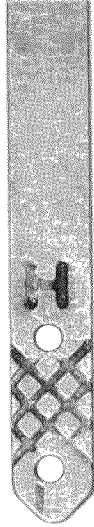

Figure 50 – Checking Oil Level
- Acceptable Oil Level – Oil is visible on the cross-hatches between the H and L lines on the oil fill plug/dipstick (see Figure 50).
- Low Oil – Oil is below the L line on the oil fill plug/dipstick (see Figure 50).